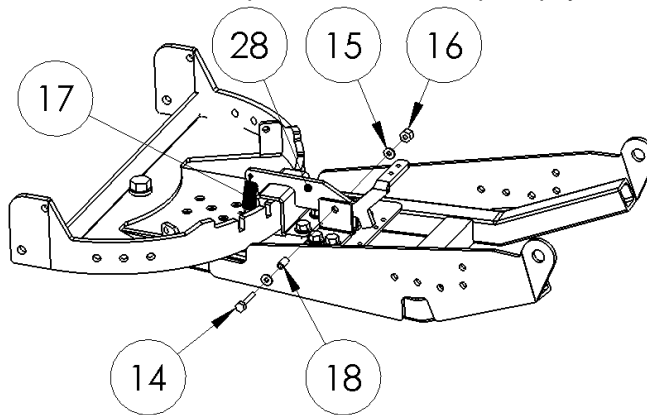

Figure 6
- 4) Attach the Pivot Lock Lever (#28) to the Pivot Lever Risers (#30) (Attached in Step 3) via the $\frac{1}{4}$ " Bolt (#14), washer (#15), Nylock Nut (#16) and Aluminum Spacer (#18) included in your kit. **(Figure 6)**. Tighten the $\frac{1}{4}$ " hardware such that the Pivot Lock Lever can still move freely. You can now tighten the $\frac{3}{8}$ " bolts from the previous step to secure the Pivot Risers. Using needle nose pliers, attach the Lock Lever Spring (#17) to the nose of the Pivot Lock Lever (#28) and the slit in the Pivot Lever Support Bracket (#29). The Pivot Lock Lever should move freely when the handle is depressed and return promptly when released.